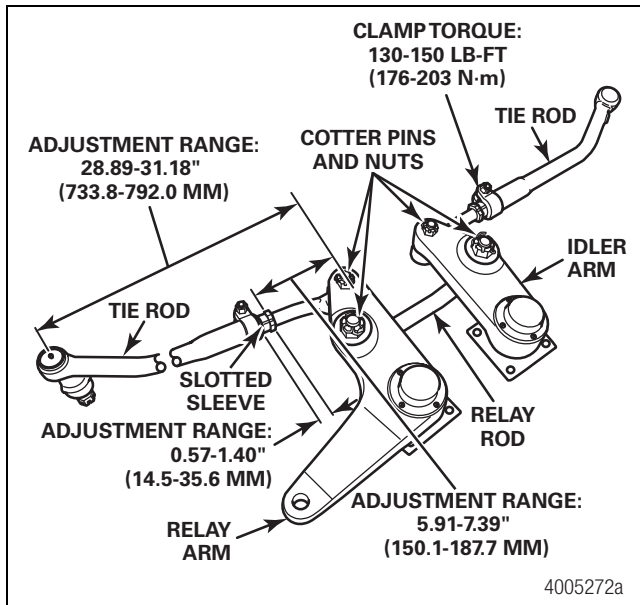

Figure 7.26
- Verify that the tie rods are the correct length and are within 1/8-inch (3 mm) of each other. The tie rod ends and the slotted adjustment sleeves must have the correct engagement with the tie rod. Adjust the tie rod length as necessary. Figure 7.26.